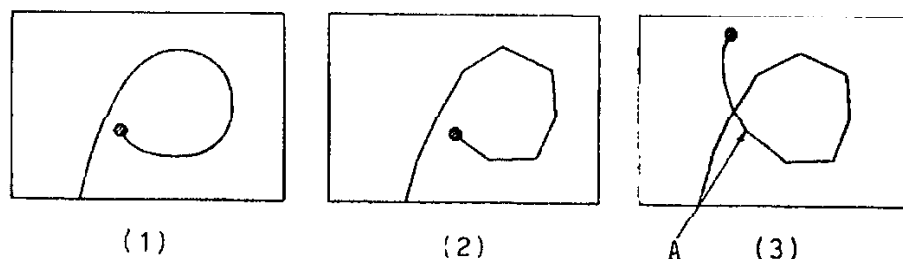

Fig.2-1
In Fig.2-1, the map (1) represents a course line which is provided by plotting position data sent from the combined equipment is the normal plotting of the course line. However, if a touchpad(Plotting Mode, Shift, Scale etc.) is operated, the course line in the map (1) is erased and a new course line is automatically computed and redrawn with a succession of straight line segments as in the map (2). Data for the reconstruction of the plot is taken from the individual position points stored in memory. In this course line drawing, joining points of straight lines show ship's positions which have been sampled and stored in the memory block "0". If no touchpad is operated after the map (2) is created, ship's position is plotted again and a smooth course line is provided as from point (A) of the map (3).